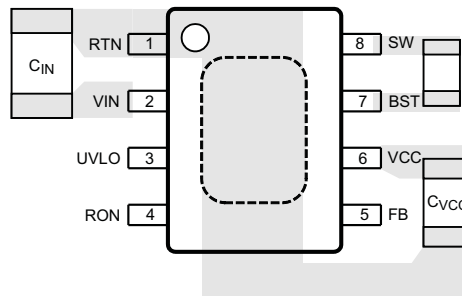

Figure 18. Placement of Bypass Capacitors
- C_{IN} : The loop consisting of input capacitor (C_{IN}), V_{IN} pin, and RTN pin carries switching currents. Therefore the input capacitor should be placed close to the IC, directly across V_{IN} and RTN pins and the connections to these two pins should be direct to minimize the loop area. In general it is not possible to accommodate all of input capacitance near the IC. A good practice is to use a 0.1- μ F or 0.47- μ F capacitor directly across the V_{IN} and RTN pins close to the IC, and the remaining bulk capacitor as close as possible (see Figure 18).
- C_{VCC} and C_{BST} : The V_{CC} and bootstrap (BST) bypass capacitors supply switching currents to the high and low-side gate drivers. These two capacitors should also be placed as close to the IC as possible, and the connecting trace lengths and loop area should be minimized (see Figure 18).